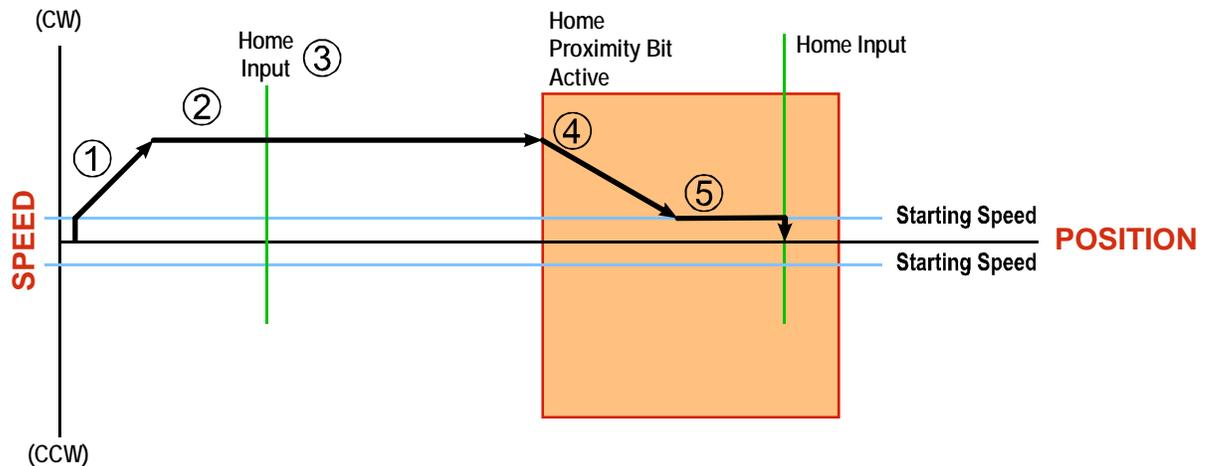

Figure R5.2 Homing with Proximity
Figure R5.2 below shows the move profile generated by a +Find Home command when you use the Home Input with Network Backplane\_Proximity\_Bit.
**NOTE**  Figure R5.2 shows the Backplane Backplane\_Proximity\_Bit staying active until the Networked Driver reaches its home position. This is valid, but does not have to occur. As stated in step 4, the Networked Driver starts to hunt for the home position as soon and the Backplane Backplane\_Proximity\_Bit makes a 0→1 transition